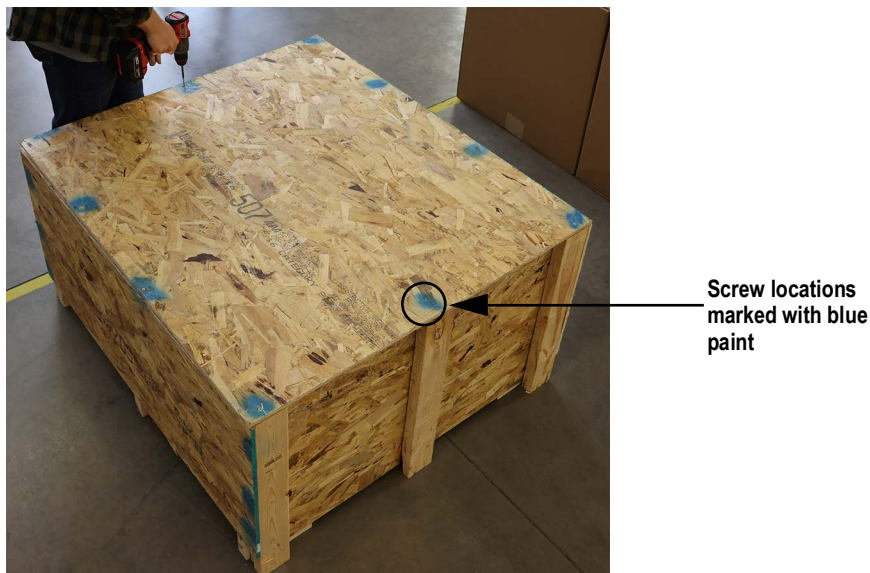

Figure 2-1. Crate Cover Screw Removal
2. Use a Phillips drill bit to remove the ten screws securing the shipping crate cover (see Figure 2-1).